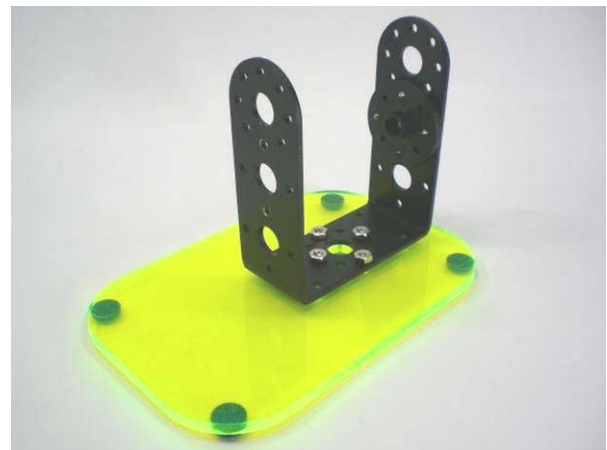

Figure 57
16. Mate the U joint, acrylic foot and servo horn with A screw sets and E screw sets as shown in figure 57 until 61.